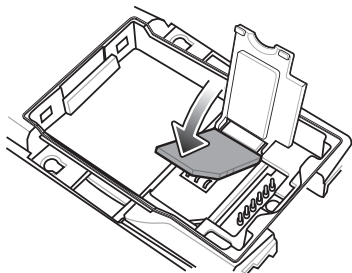

Figure 1-9 *Inserting the SIM Card*
4. Insert the SIM card, as shown in Figure 1-9, with the cut edge of the card facing out and the contacts facing down.